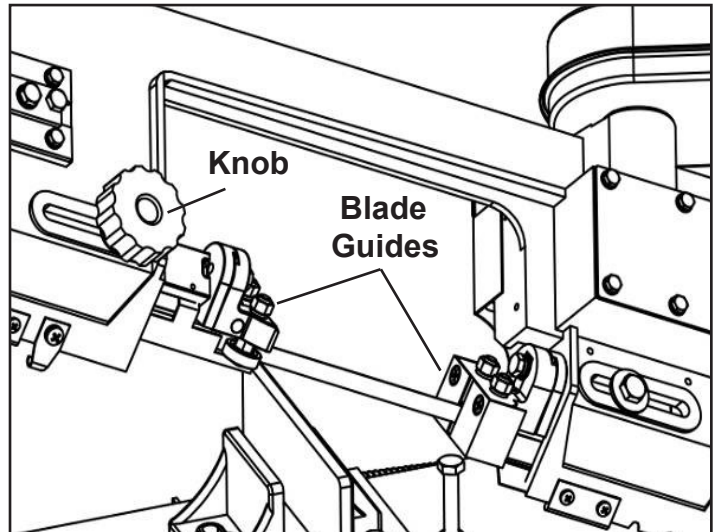

FIGURE 14
1. Loosen the guide post knob and slide the blade guide as close to the workpiece as possible. SEE Figure 14.